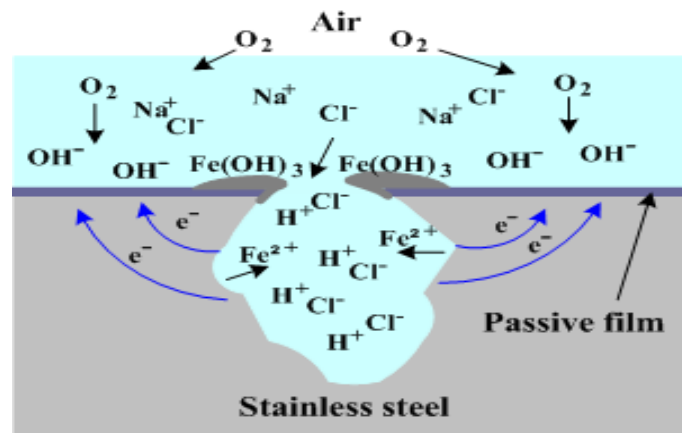

Figure 2
(a) Figure 2 shows a schematic diagram of the corrosion mechanism.
- (i) Identify the type of corrosion according to the schematic diagram shown in Figure 2. (2 marks)
- (ii) List **FOUR (4)** environmental conditions that could promote corrosion shown in Figure 2. (8 marks)
- (iii) Explain how to prevent corrosion shown in Figure 2. (8 marks)
- (iii) List **FOUR (4)** places where corrosion inhibitor commonly applied? (4 marks)